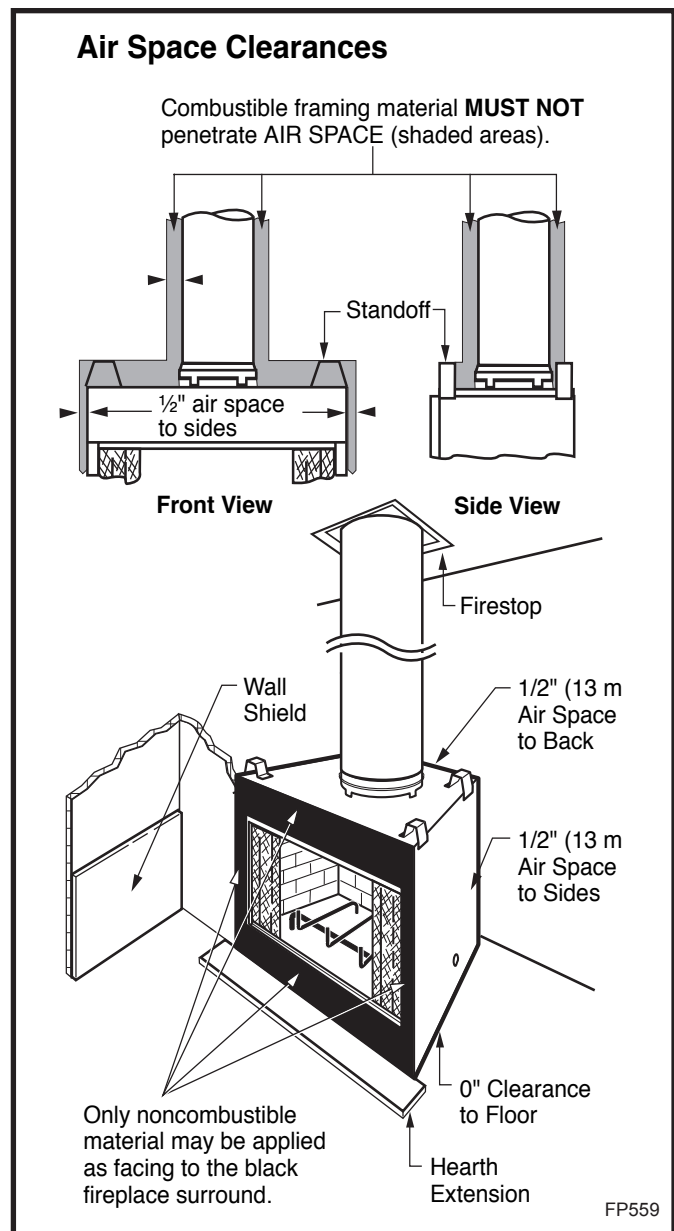
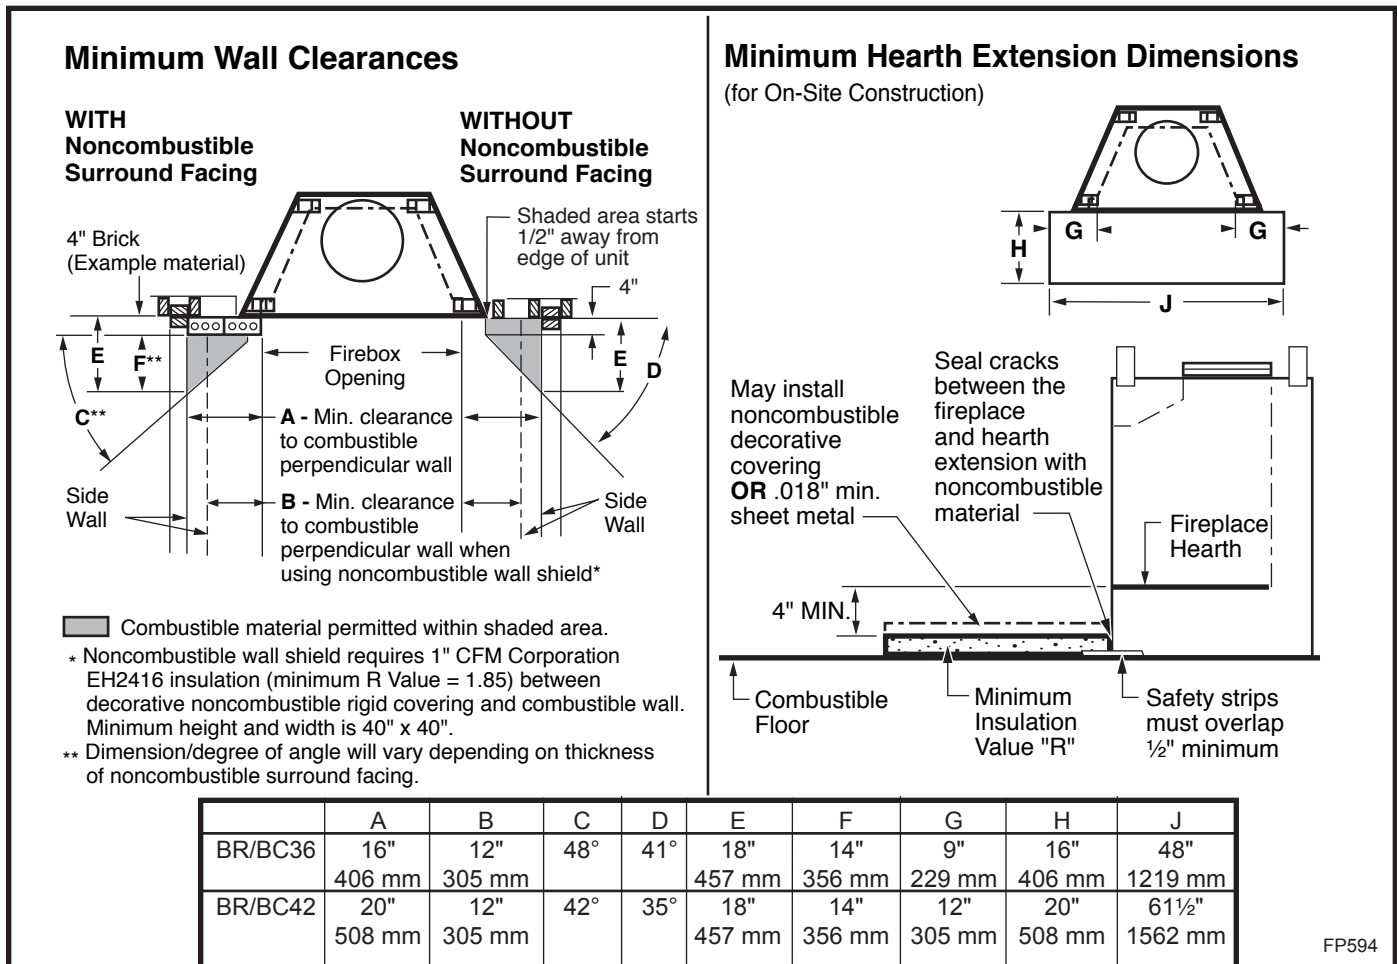

Fig. 20 Minimum clearances to combustibles.
Fig. 23 Combustible side wall protection and hearth extension dimensions.
**CAUTION:** All joints between the finished wall and the fireplace surround (top/sides) must be sealed with noncombustible material to prevent cold air leakage into the room. Only noncombustible material may be applied to the facing of the fireplace surround. (Black painted area) (Fig. 20)
Often a decorative surround or vertical portion of the mantel is desired. If this is constructed of any combustible material it must be within the safe zone indicated in Figure 23.
Adjacent combustible side walls that are within minimum dimensions shown in Figure 23 of the fireplace opening must be protected with MHSC Wall Shield Model SP40 or a specifically built wall shield described in Figure 20.
The special wall shield design described in Figure 20 is an alternate method of adding protection to side walls and can be used in place of the SP40 with the same wall clearances specified for the SP40. Rt must = 1.85 minimum.
A hearth extension is required to protect a combustible floor in front of the fireplace. Refer to Figure 23 for minimum dimensions and mounting detail.
The hearth extension described in Figure 23 must be a durable noncombustible material with a minimum (total) Rt value of 1.09; see Figure 24 for examples. The overall height (above a combustible floor), depth and width must be as indicated, with the extension centered to the fireplace opening.
The top of insulation must be covered with a noncombustible decorative covering **or** a piece of .018" minimum sheet metal, to protect hearth extension material. (Fig. 23)
Secure the hearth extension to the floor to prevent shifting, using trim molding or other similar means at three (3) outer edges. Seal crack between the fireplace hearth and hearth extension with a noncombustible material. (Figs. 23 and 25)
**WARNING: HEARTH EXTENSION MUST BE INSTALLED IN ACCORDANCE WITH FIGURE 23 AND MUST NOT COVER THE BOTTOM FRONT OPENING OF THE CIRCULATING MODEL.**